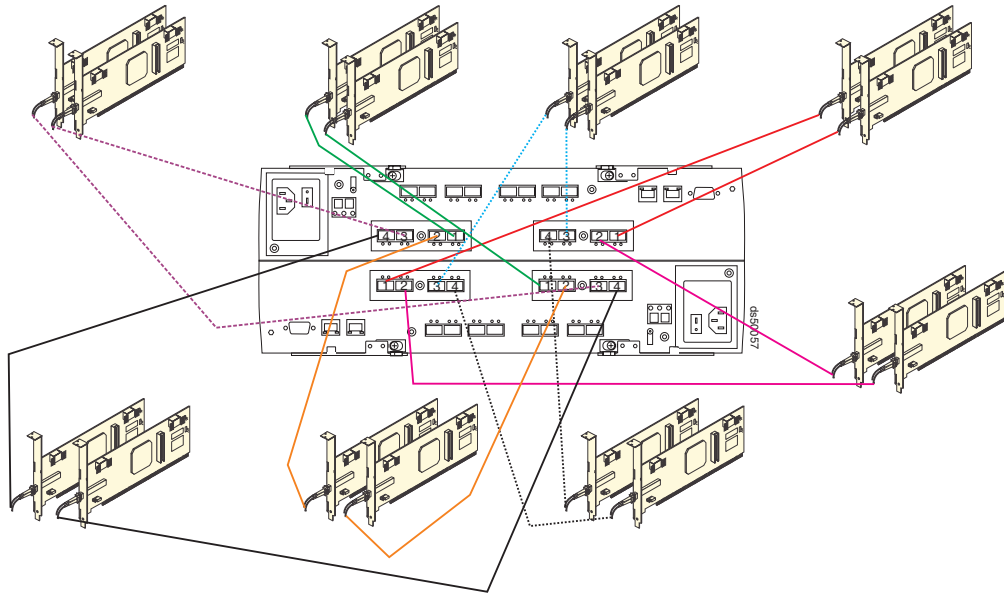

Figure 72. Cabling diagram for eight redundant host connections
3. Repeat steps 1 on page 108 and 2 for each additional redundant host connection. You can create a maximum of eight redundant host connections, as shown in Figure 72 on page 110.
Note: Figure 72 on page 110 shows that the host ports are connected to eight sets of FC host bus adapters (HBAs). You can replace one or all of these sets of FC HBAs with FC switches as required.